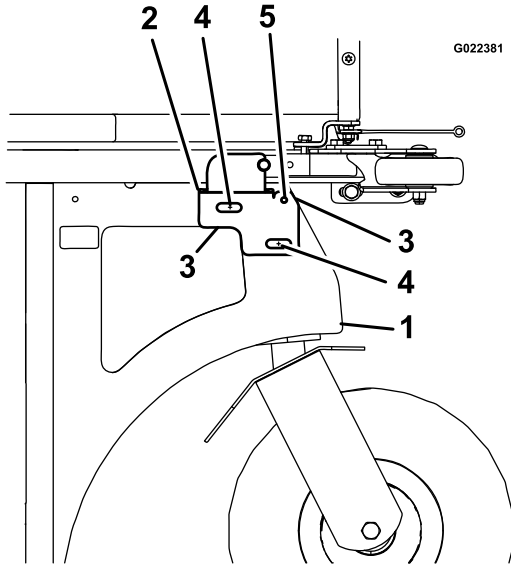

Figure 2
- Place the cam bracket on the left-hand rear frame, and align the upper, right hole, the inside cam bracket radius and the edges (Figure 2).